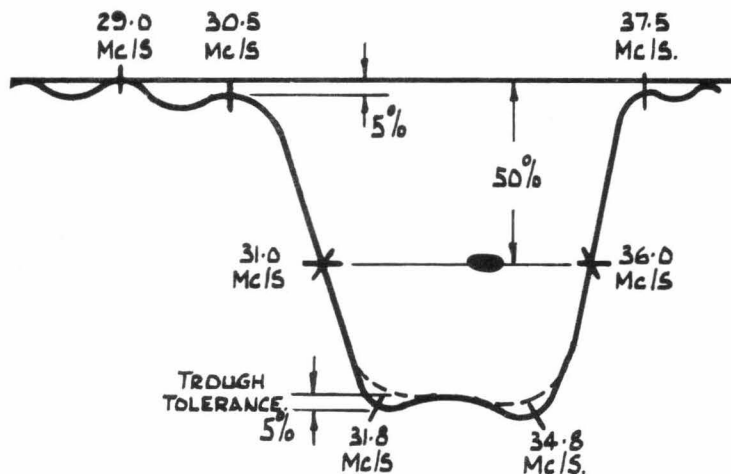

FIG. 8.
8. Correct the response if necessary by retouching the composite IF tuning cores to obtain a response within the limits shown in Fig. 8.